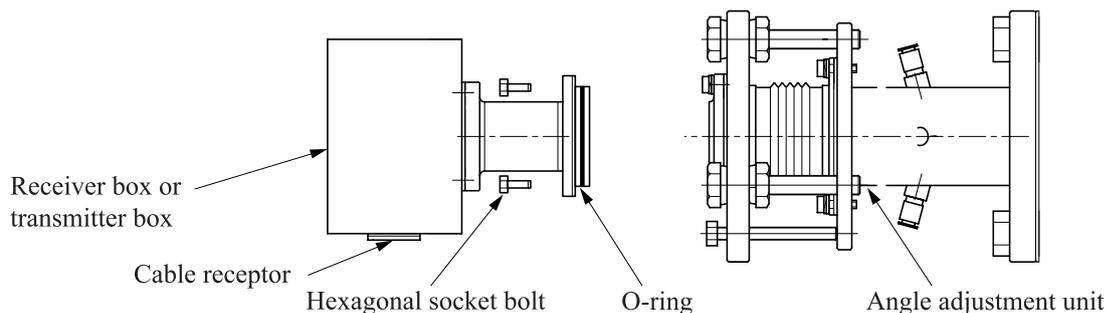

Fig. 4-11
- (1) Prepare "Receiver box or transmitter box" and "Hexagonal socket bolt" as shown in the following figure (Fig. 4-11). (When the O-ring is not mounted to the receiver unit or the transmitter unit, mount the O-ring.)
- (2) Mount "Receiver box or transmitter box" on "Angle adjustment unit" so that the cable receptor is positioned down.
- (3) Fix it with the 6 "hexagonal socket bolts".